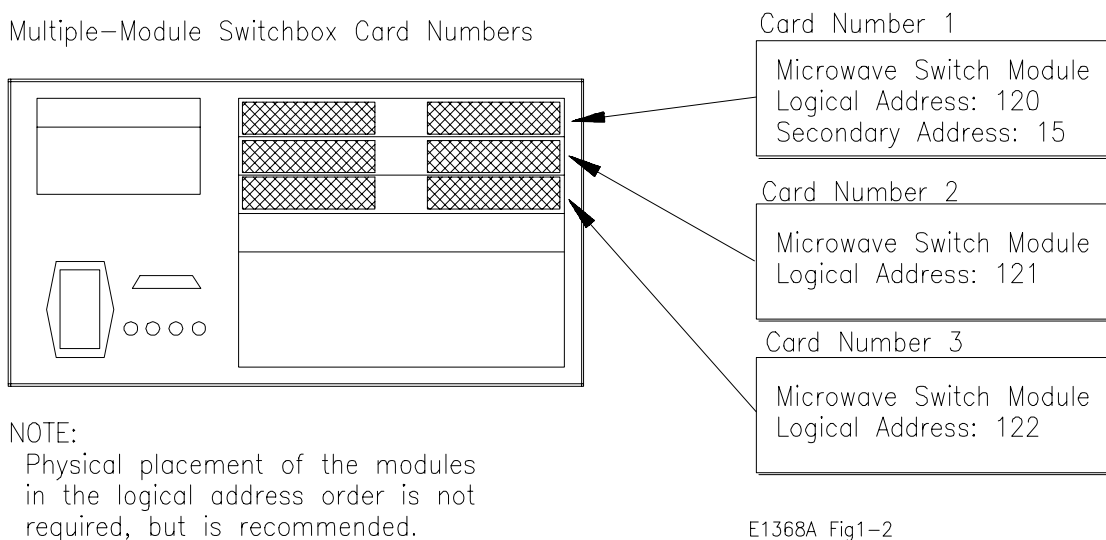

Figure 1-2. Card Numbers for Multiple-Module Switchboxes
- **Multiple-module.** For a multiple-module switchbox, the switch module with the lowest logical address is always card number 01. The card number with the next successive logical address is 02, and so on. Figure 1-2 illustrates the card numbers and logical addresses of a typical multiple-module switchbox.
The logical addresses noted in Figure 1-2 apply to modules installed in an HP 75000 Series B Mainframe (HP Model Number E1300/E1301) or in a mainframe with an HP E1405/E1406 Command Module. See the *HP 75000 Series B Installation and Getting Started Guide* or the appropriate *HP Command Module Manual* for more information on switchboxes and logical addressing.